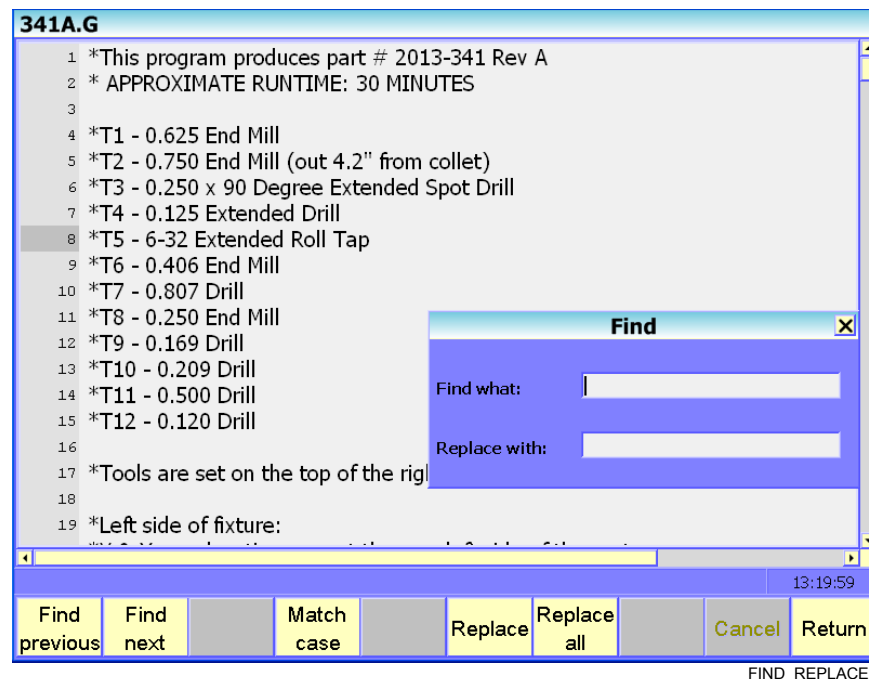

Figure 6-5, Edit Funct (F8) Find/Replace Screen
3. Select **Find / Replace** and press enter to display the Find screen. Refer to **Figure 6-5**.
Press **Find/Replace** to display the Find/Replace screen (refer to Figure 6-5, Edit Funct \(F8\) Find/Replace Screen) and **Table 6-4**.
Use **Replace with:** to replace selected occurrences of text. Enter the appropriate text and the CNC searches the Program Listing for all occurrences of the text. You can edit or skip each occurrence. Use **Match Case (F4)** for a case-sensitive replacement. Refer to Figure 6-5, Edit Funct \(F8\) Find/Replace Screen.
2. Select **Find / Replace** and press **ENTER** to display the Find screen. Refer to Figure 6-5, Edit Funct \(F8\) Find/Replace Screen.